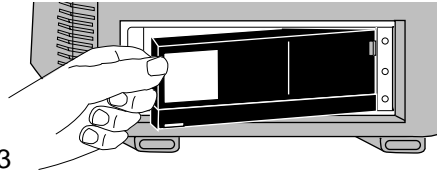

Figure 73
4. Insert the charged battery into the compartment and slide it as far from the release button as it will go (Figure 73).